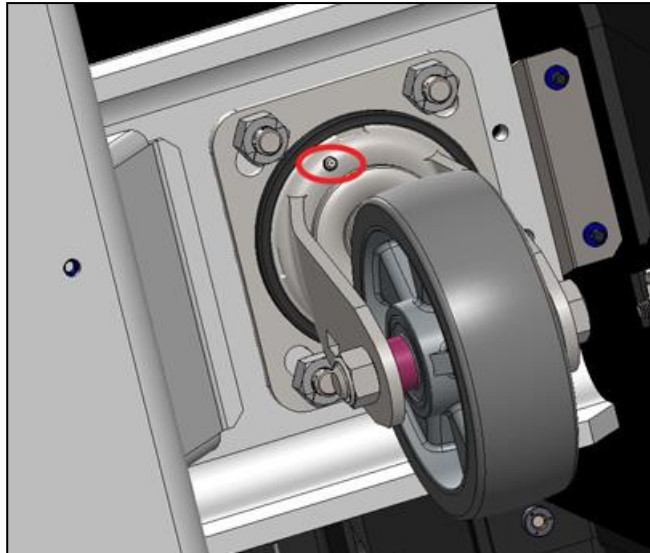

Figure 8-6 ESD Caster with Zerk Fitting Circled in Red
6. Use the grease gun to apply only two pumps of grease through the Zerk fitting in the yoke bearing, shown in Figure 8-6. Avoid applying grease to the wheel.